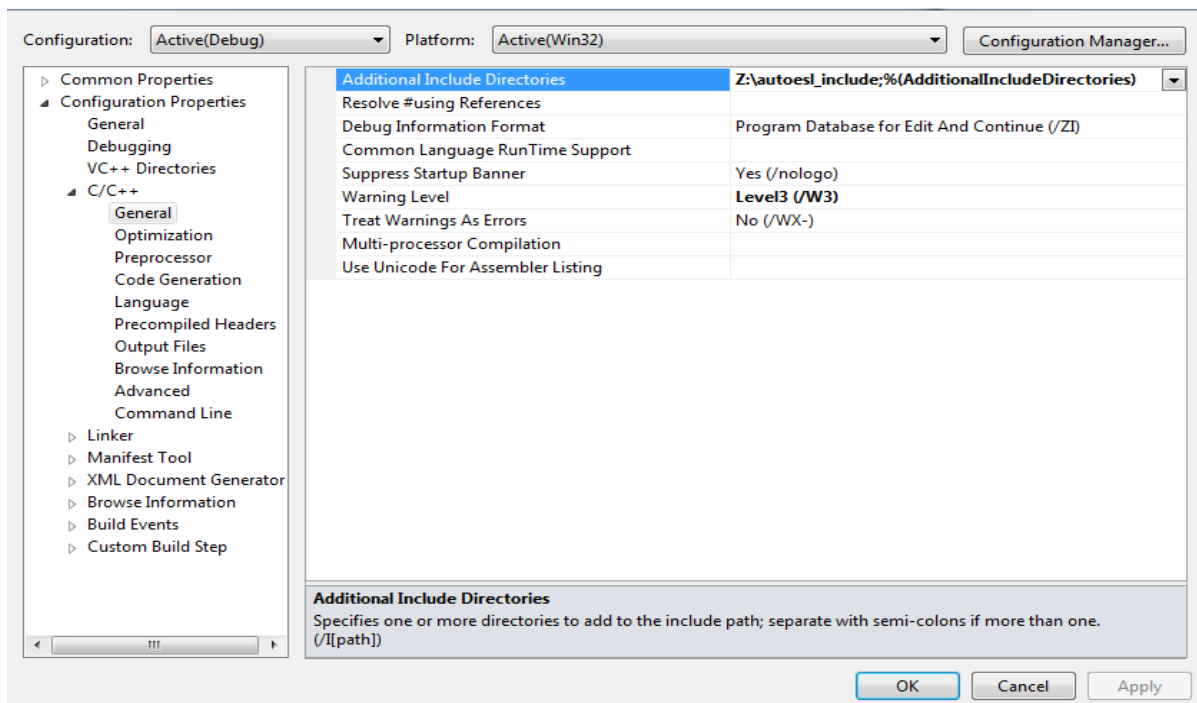

Figure 2-27: Setting High-Level Synthesis Include Path in Visual Studio
5. Click on additional include directories and add the path as show in Figure 2-27.